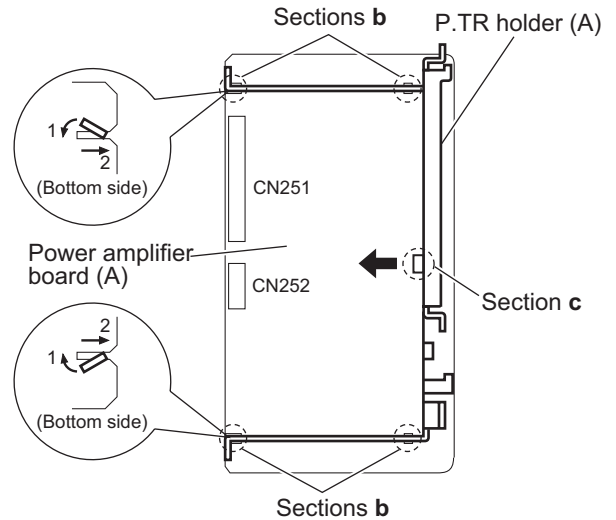

Fig.9
- (2) From the bottom side of the power amplifier board (A), disengage the four sections **b** of the engagement. (See Fig.9.)
- (3) From the top side of the power amplifier board (A), disengage the section **c** of the engagement to the direction of the arrow. (See Fig.9.)
- (4) Remove the power amplifier board (A) from the P.TR holder (A).
- (2) From the bottom side of the power amplifier board (B), disengage the four sections **c** of the engagement. (See Fig.9.)
- (3) From the top side of the power amplifier board (B), disengage the section **d** of the engagement to the direction of the arrow. (See Fig.9.)
- (4) Remove the power amplifier board (B) from the P.TR holder (B).